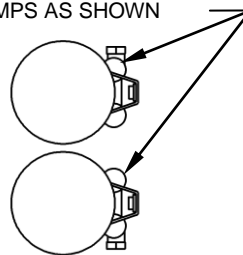

FIGURE 2
4. Remove the muffler assembly from the box and slide one supplied clamp #27-61MSC onto each muffler tube. Refer to Figure 2 for proper alignment.